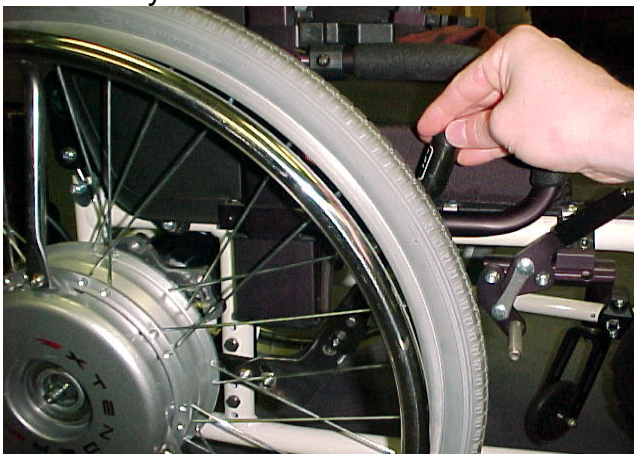

Figure 9: Suggested location of Switch
3. Next reattach the Xtender Unit to the Wheelchair. Once attached, position the switch so that it is clear of the tire, armrest, and wheel lock if applicable as shown in **Figure 9**. Once in the desired position detach the Xtender Unit from the wheelchair and firmly tighten the 4mm hardware and the 1/4-28 hardware so the bracket is unable to move. Finally reattach the Xtender Unit and battery to the wheel chair.